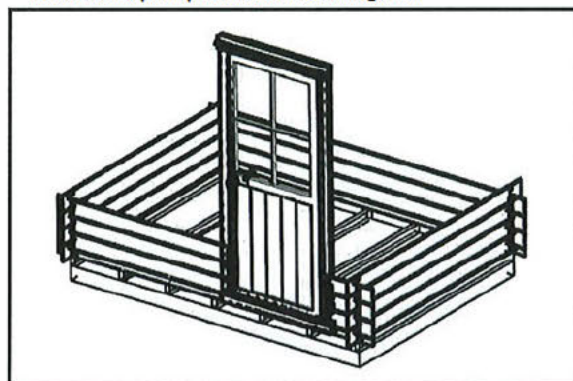

FIG 5
We recommend that you treat the entire window and door units including the beading with a top quality timber treatment. Prior to assembly (Fig5, 6 & 7) with at least 2 coats as some areas are not accessible after assembly.
5. Door unit must be placed into position after the first two layers of full logs have been assembled (fig5). Slide unit into aperture from above ensuring unit is completely down and in position